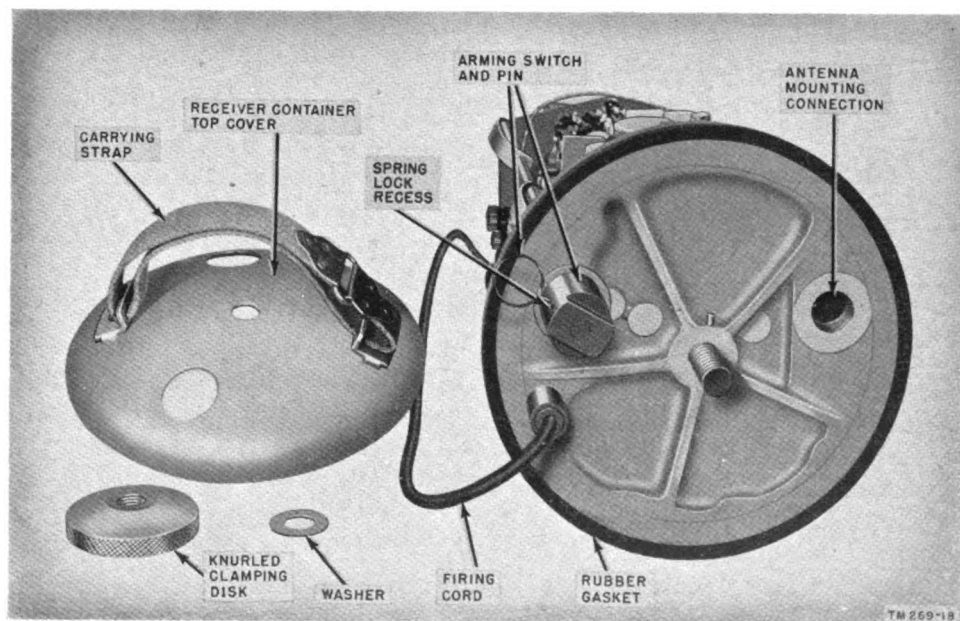

Figure 18. Receiver, top cover removed.
The only control in the receiver, besides the three-gang selector switch discussed in paragraph 13c, is the arming switch (fig. 18). This switch turns the receiver on by connecting one side of the power supply to ground. The switch has three positions: *off*, *test*, and *firing*.
a. In the *off* position the switch is pressed inward against the compression of a spring, and the contacts are held open by a holding pin (fig. 18).
- (1) The sets are packed for shipment with the switch in the *test* position. In this position the arrow (or metal tip) on the rotatable head of the switch points to the letter T at the base of the switch. Pulling the pin in this position turns on
- (1) Insert a sharp-pointed object, such as a pin point, into the recession (fig. 18) just above the hole for the arming pin. Press in on the spring lock pin.
- (2) Push in the arming switch and rotate it 90°. Insert the arming pin. This is the off position.